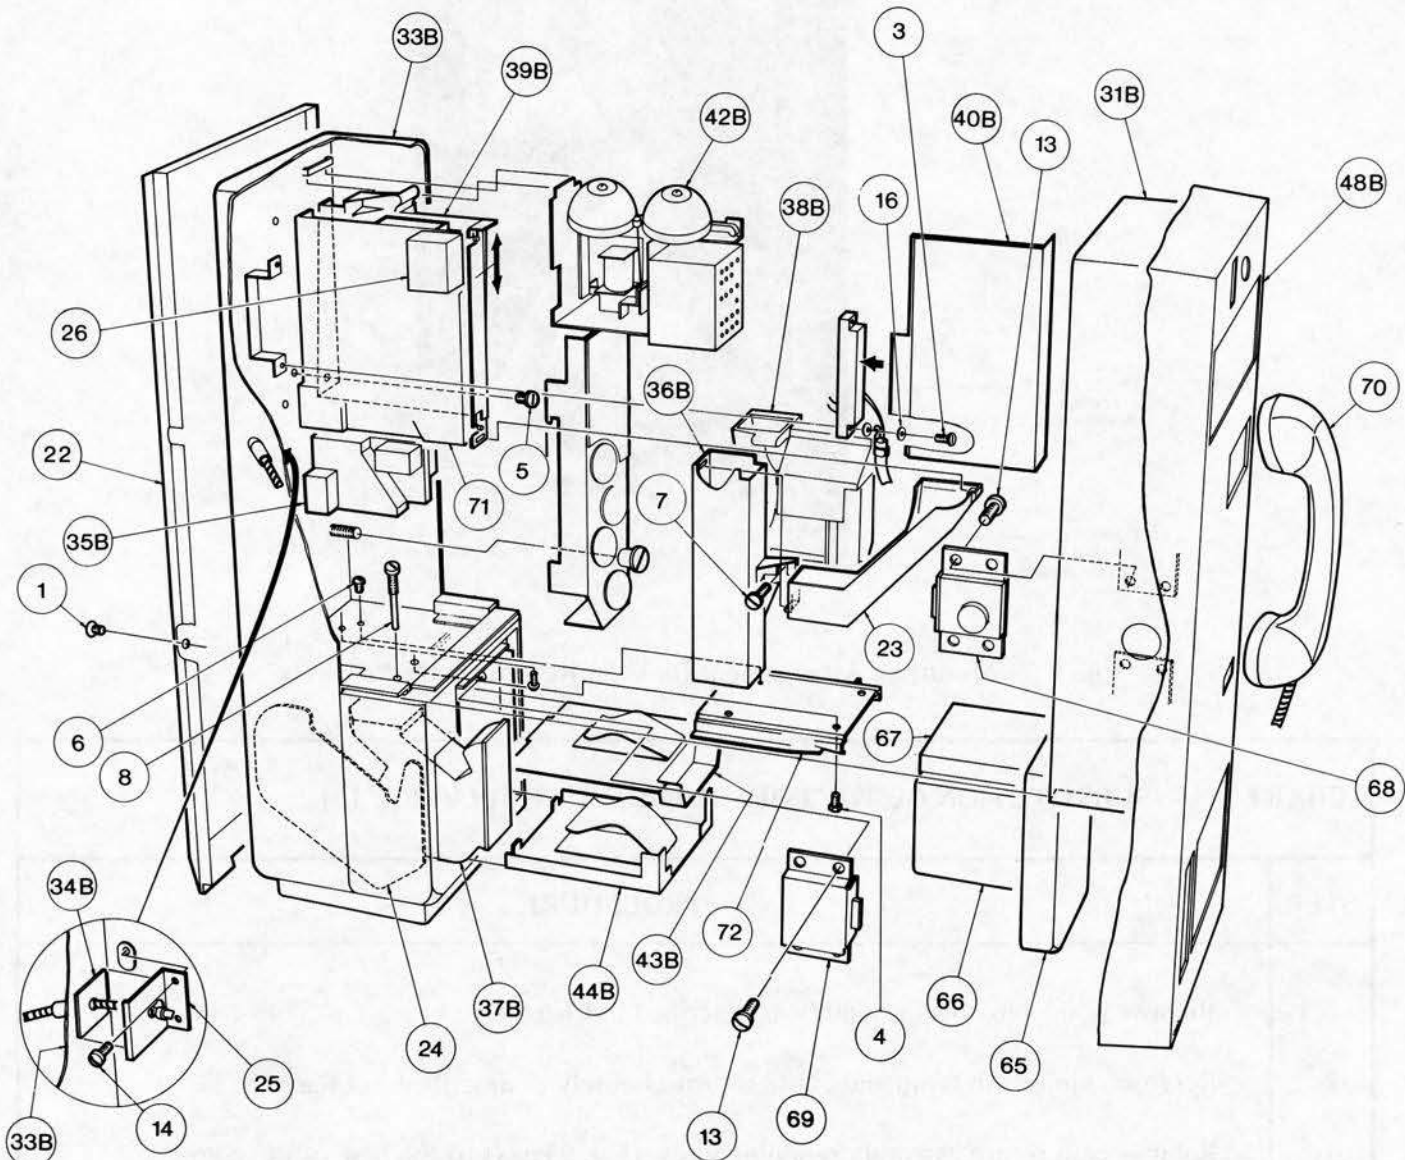

Fig. 10 — Exploded View of QSD400A1 and QSD2400A1 Coin Telephone Sets
CHART 17 – SUBSTITUTION OF COIN CHUTE NSQ1016L2 (Fig. 10)
CHART 21 – SUBSTITUTION OF THE COIN RETURN ASSEMBLY (Fig. 10)
4.01 An exploded view of the QSD400A1 and QSD2400A1 coin telephone sets is shown in Fig. 10 with the parts keyed by numbers to